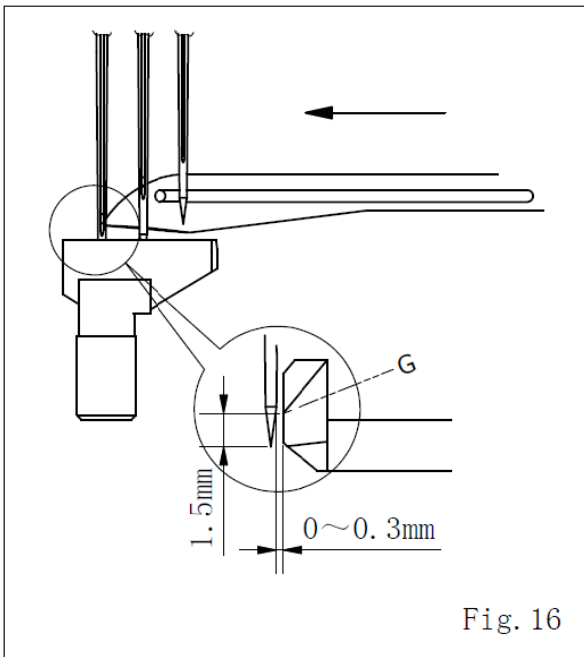

Fig. 16
1. 当勾针之尖端移到左针中心线时, 左针尖与前护针片之(G)线约 1.5mm, 此为前护针片之高度。且左针与前护针片间隙约为 0.3mm。(图 16)
1. When the tip of Loper moves to the center of left needle, the distance of the tip of left needle pass the line (G) of Front Needle Guard is about 1.5mm. This is the height of Front Needle Guard. The clearance between the Front Needle Guard and right needle is about 0.3mm. (Fig. 16)